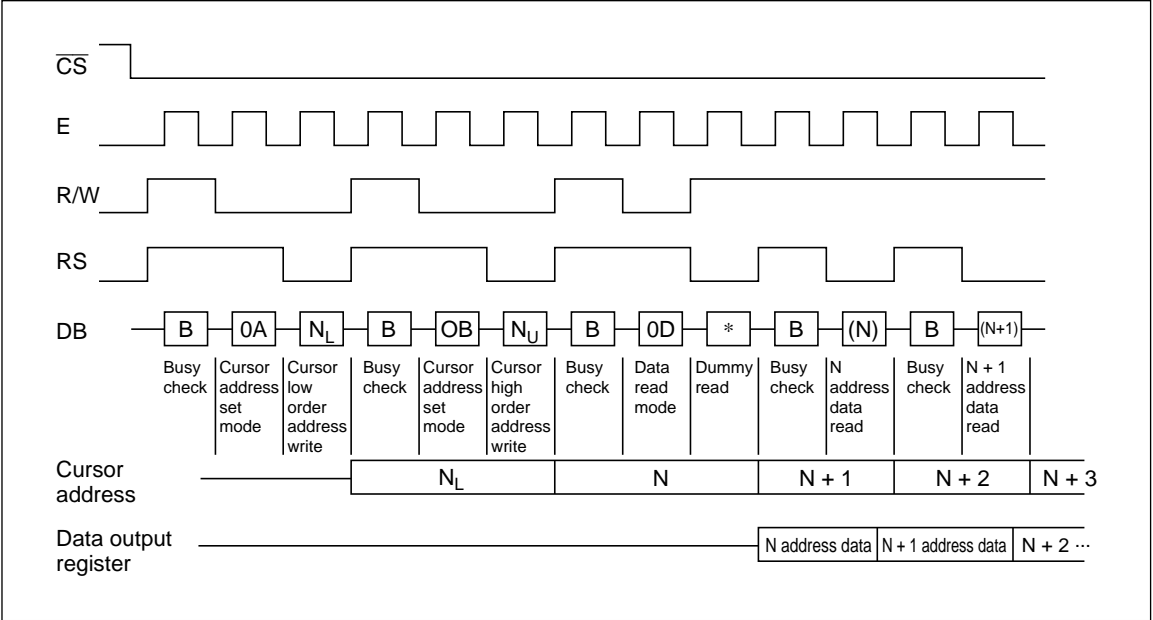

Figure 1 Read Procedure
9. Read Display Data: Data can be read from the RAM with RS = 0 after writing code \$“OD” into the instruction register. Figure 1 shows the read procedure.